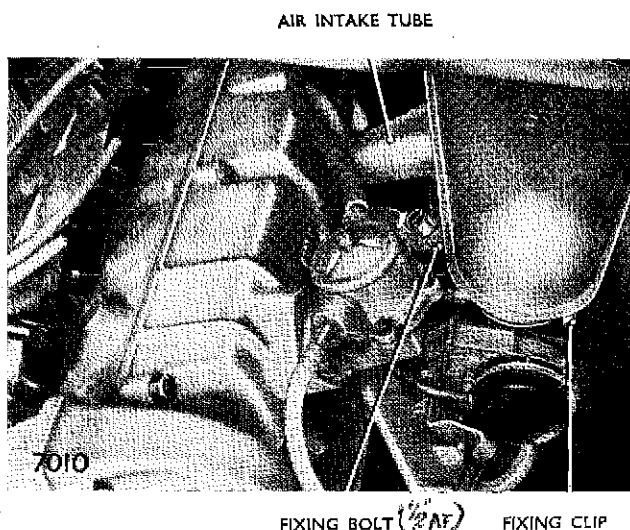

Fig. 19. Correct position of air cleaner intake horn
The air intake tube must ALWAYS point to the position shown in Fig. 19.
1. Loosen clip holding filter upper body to the carburettor intake. See Fig. 19.
2. Remove the nut and washer from the fixing bolt holding the support bracket to the lug on the inlet manifold. Do not loosen bolt holding bracket to the centre of the filter body. See Fig. 19.
Tighten bolt, wing nut, and clip on carburettor intake after ensuring that the air intake tube points to the position shown in Fig. 19.